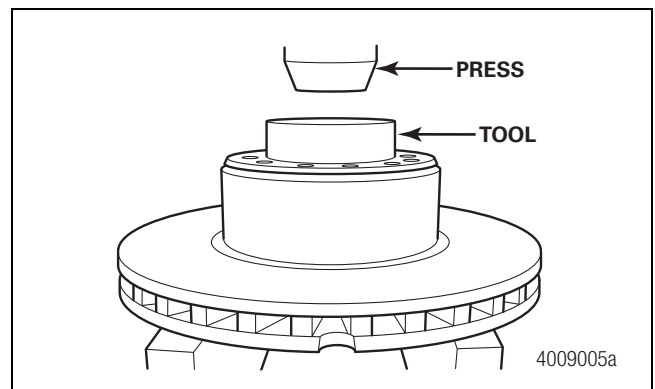

Figure 4.12
12. Place the tool on top of the rotor and hub assembly. Refer to Figure 11.15 in Section 11 for a tool drawing. Figure 4.12.